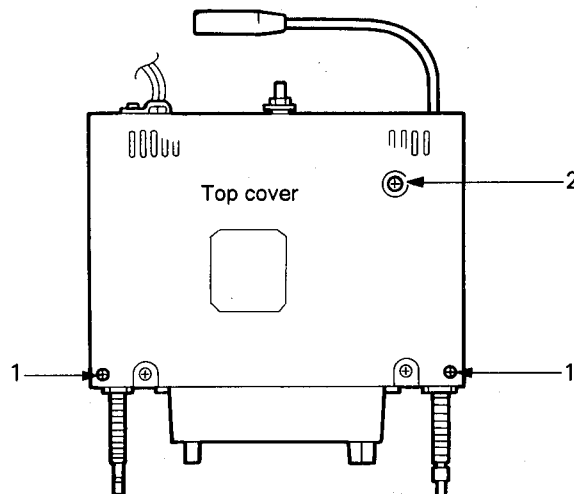

Fig. 4-1
■ Top cover (Figs. 4-1, 4-2, 4-3)
2. Remove two screws (3) retaining the top cover from the rear of the set.